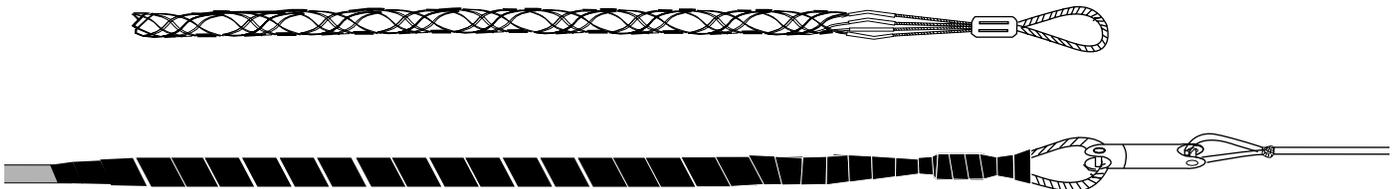

Figure 1
**1.1** This procedure provides instructions for installing a wire mesh pulling grip on Corning Cable Systems SST, SST-Ribbon™, SST-UltraRibbon™, SST-Ribbon™ Dry-Lock, ALTOS, and ALTOS Riser fiber optic cables (Figure 1).